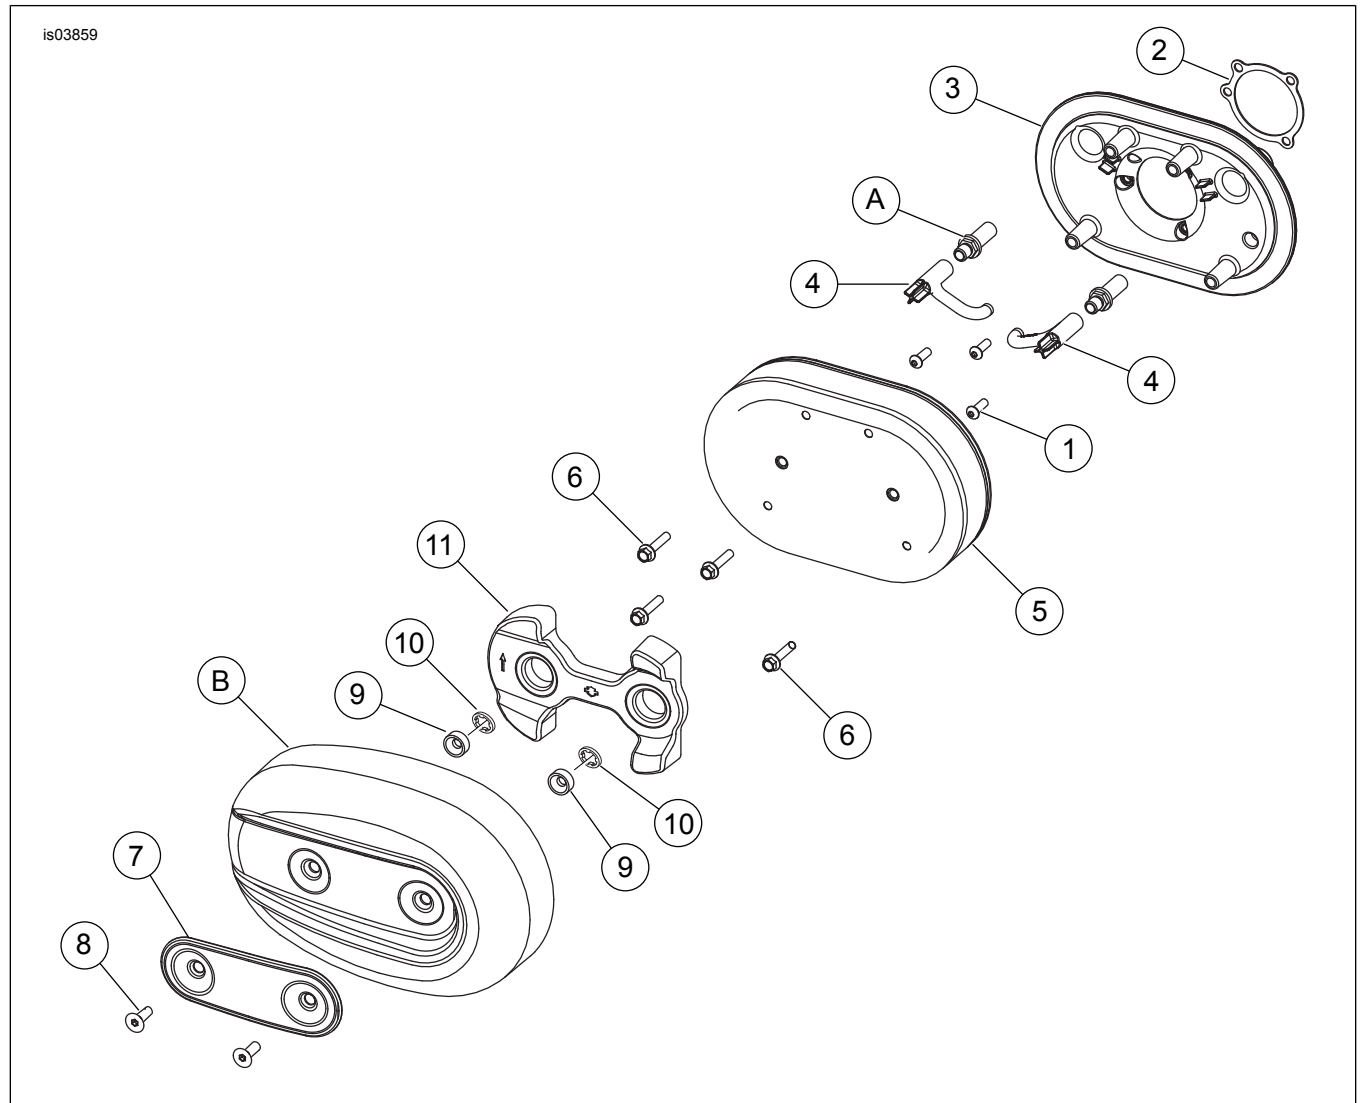

Figure 1. Service Parts: Screamin' Eagle Oval High-Flow Air Cleaner - Sportster
See Figure 1 and Table 1.
1. See Figure 1. Install three screws (1) fully into backplate inserts.
2. Peel backing paper off gasket (2) and apply to carburetor side of backplate. Make sure gasket holes are lined up with backplate holes.
3. Install backplate (3) to carburetor.
- b. Carefully thread three screws (1) with backplate (3) into carburetor.
1. See Figure 1. Install filter element (5) to backplate.
- a. Secure filter element using four screws (6).
1. See Figure 1. Remove air cleaner cover (B) and inspect the filter element (5) every 5000 mi (8000 km), or more often under dusty conditions.